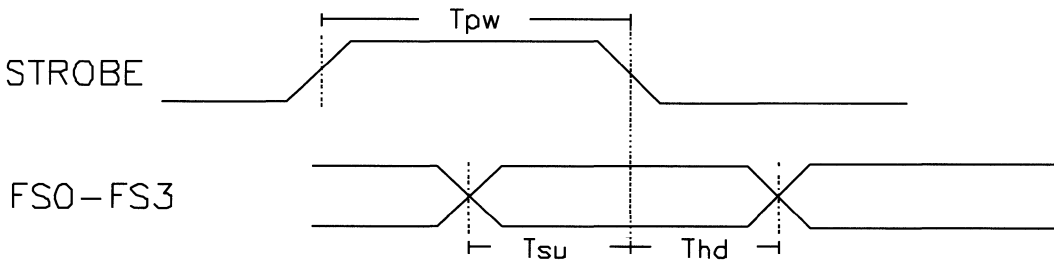

Figure 3
FS0 (4), **FS1 (5)**, **FS2 (7)**, and **FS3 (8)**, are the TTL compatible frequency select inputs for the binary code corresponding to the frequency desired. **STROBE (6)**, when high, allows new data into the frequency select latches; and when low, prevents address changes per Figure 3. The internal power-on-clear signal will force an initial frequency code corresponding to an all-zeros input state. **MS0 (9)** and **MS1 (11)** are the corresponding memory select inputs and are not strobed.